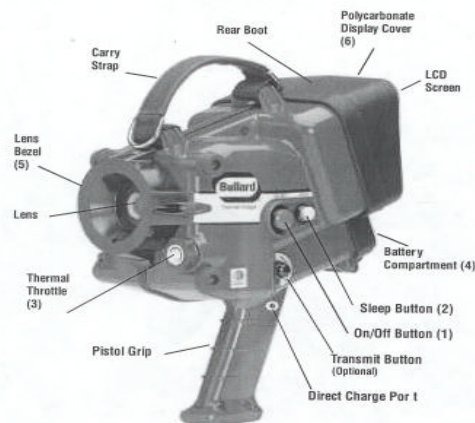

Figure 1
**POWER:** To turn the Bullard Thermal Imager on, simply depress the large green “On/Off” button on the left side of the unit (Item 1, Figure 1). Upon depressing
**SLEEP MODE:** To conserve battery life, the Bullard Thermal Imager includes a unique "Sleep" mode. To put the unit into sleep mode, simply press the yellow sleep button on the left side of the unit (Item 2, Figure 1). When in the sleep mode, the sleep indicator light will appear on the viewing screen. To bring the unit out of the sleep mode, push the yellow button again. The thermal image will immediately reappear on the screen.
**THERMAL THROTTLE:** The thermal imager features a fully adjustable aperture (thermal throttle), which allows you to always get the clearest picture. The Thermal Throttle controls the amount of energy that reaches the thermal detector. The process is similar to that of the pupil in the eye. When there is bright light, the pupil shrinks to protect it. When there is low light, the pupil expands. The Thermal Throttle works the same way. In high heat situations, the Thermal Throttle may be reduced down to obtain the best contrast and the clearest image. In low heat situations, the Thermal Throttle should be wide open. Since the Thermal Throttle is manually adjusted, the operation can always get the clearest image. The Thermal Throttle is manually adjusted by turning the Thermal Throttle dial on the front left of the unit (Item 3, Figure 1). Turning the dial clockwise closes the Thermal Throttle, and turning the dial counter-clockwise opens it. For increased durability, the Thermal Throttle is equipped with a safety slip mechanism, which engages when the Thermal Throttle reaches fully open or fully closed positions. This mechanism prevents over-adjusting or over-tightening the dial.
**CLEANING THE LENS:** The Thermal Imager lens is protected by both a silicone gasket and a plastic lens *bezel*. The bezel (Item 5, Figure 1) contains a drain hole so that any water that may get into or behind the bezel will be effectively drained away. Normally, the lens can be cleaned with a soft cloth and soapy water. However, if the bezel drain becomes clogged it may be necessary to remove the bezel in order to clean out the passageway. The bezel can be easily removed by unscrewing the two retaining screws. Once clean, re-attach the bezel ensuring that the drain is positioned on the bottom of the assembly.